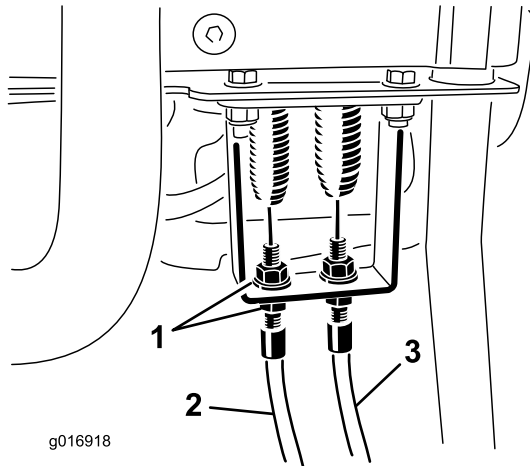

Figure 45
2. Check to see if there is any slack in the traction control cable at the extension spring (Figure 45).
9. Adjusting the cable at the control panel bulk head, adjust the cable jam nuts to remove any slack in the cable without extending the spring (Figure 45).
3. At the control handle bulkhead, loosen the reel control cable until there is slack in the cable (Figure 45).